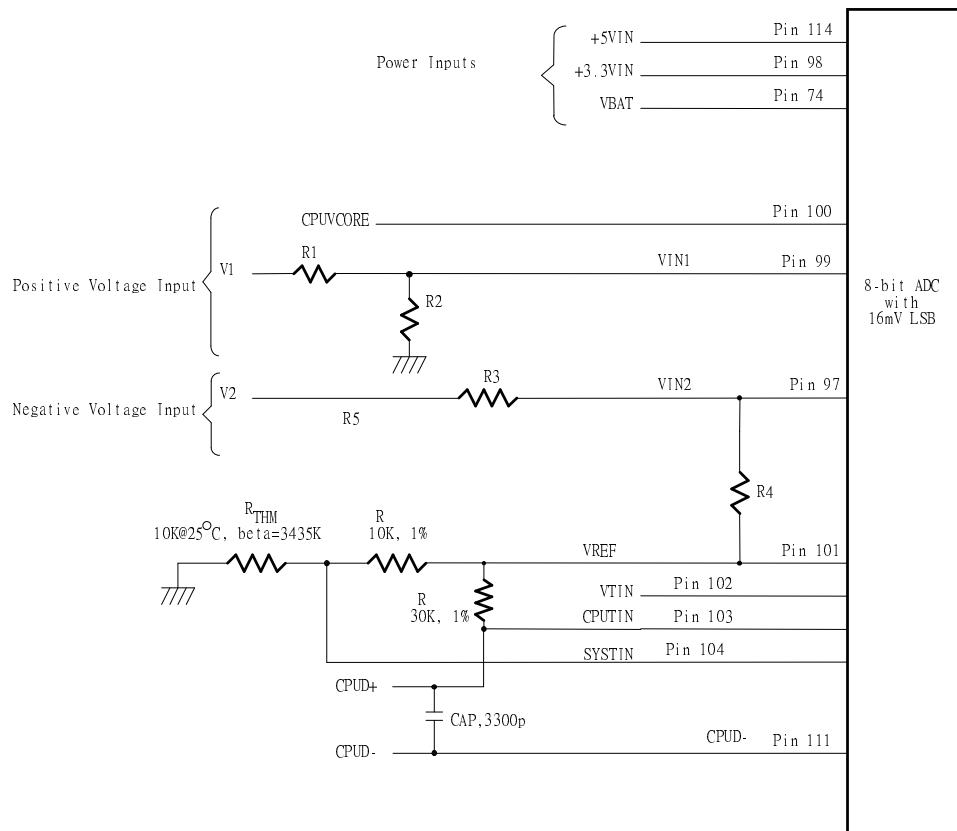

Figure. 6.2
The maximum input voltage of the analog pin is 4.096V because the 8-bit ADC has a 16mV LSB. Really, the application of the PC monitoring would most often be connected to power suppliers. The CPU V-core voltage, +3.3V, battery(pin 74) can directly connected to these analog inputs. The +12V voltage inputs should be reduced a factor with external resistors so as to obtain the input range. As Figure 6.2 shows.
The W83637HF can connect three thermistors to measure three different envirment temperature. The specification of thermistor should be considered to (1) β value is 3435K, (2) resistor value is 10K ohms at 25°C. In the Figure 6.2, the themistor is connected by a serial resistor with 10K Ohms, then connect to VREF (Pin 101).